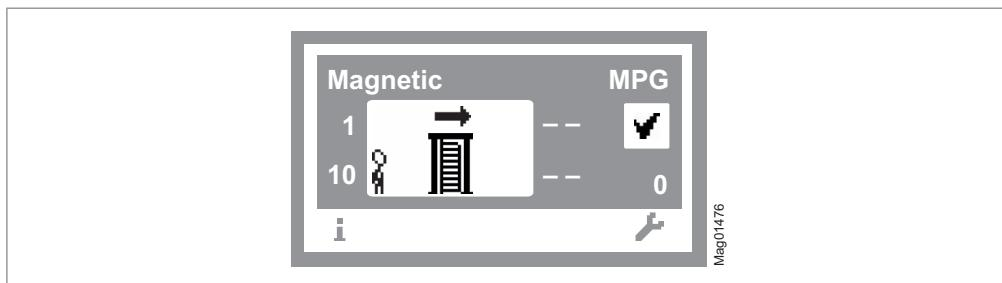

Fig. 10: Example "Operational view"
12. Press the left button «» repeatedly until the operational view is displayed again. ↗ Page 29, Fig. 10.